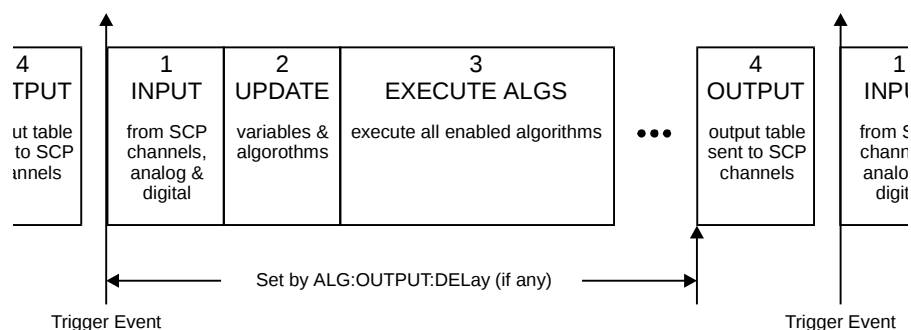

Figure 6-1. Updating Variables and Algorithms
- The algorithm output statements (e.g. O115 = Out_val) DO NOT program outputs when they are executed. Instead, these statements write to an intermediate Output Channel Buffer which is read and used for output AFTER all algorithms have executed AND the algorithm output delay has expired (see Figure 6-1). Also note that not all outputs will occur at the same time but will take approximately 10usec per channel to write.
- Variables and algorithms can be accepted during Phase 1-INPUT or Phase 2-UPDATE in Figure 6-1 when INIT is active. All writes to variables and algorithms occur to their buffered elements upon receipt. However, these changes do not take effect until the ALG:UPD:IMM command is processed at the beginning of the UPDATE phase. The update command can be received at any time prior to the UPDATE phase and will be the last command accepted. Note that the ALG:UPD:WINDow command specifies the maximum number of updates to do. If no update command is pending when entering the UPDATE phase, then this time is dedicated to receiving more changes from the system.
ALGORITHM:UPDate:CHANnel <dig_chan> This command is used to update variables, algorithms, ALG:SCAN:RATIO, and ALG:STATE changes when the specified digital input level changes state. When the ALG:UPD:CHAN command is executed, the current state of the digital input specified is saved. The update will be performed at the next update phase (UPDATE in Figure 6-1), following the channel's change of digital state. This command is useful to synchronize multiple HP E1415s when you want all variable updates to be processed at the same time.
- The duration of the level change to the designated bit or channel MUST be at least the length of time between scan triggers. Variable and algorithm changes can be accepted during the INPUT or UPDATE phases (Figure 6-1) when INIT is active. All writes to variables and algorithms occur to their buffered elements upon receipt. However, these changes do not take effect until the ALG:UPD:CHAN command is processed at the beginning of the UPDATE phase. Note that the ALG:UPD:WINDOW command specifies the maximum number of updates to do. If no update command is pending when entering the UPDATE phase, then this time is dedicated to receiving more changes from the system.